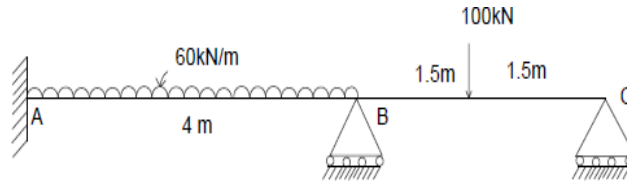

Fig:1
8. Draw the free bending moment diagram for the beam as shown in fig1.